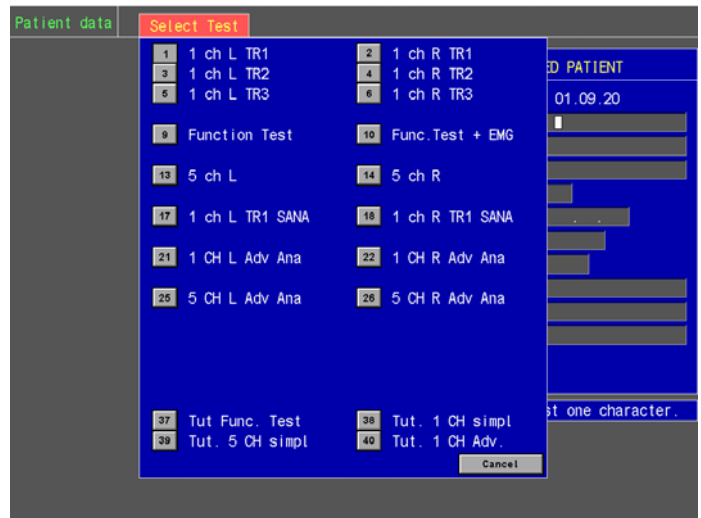

Figure 71 The Select Test Menu
- Click to proceed to the Select Test Menu, see Figure 71 below.
- In the Select Test Menu, click the selectable button number named Tut. 1 CH Adv., please see Figure 71 above.